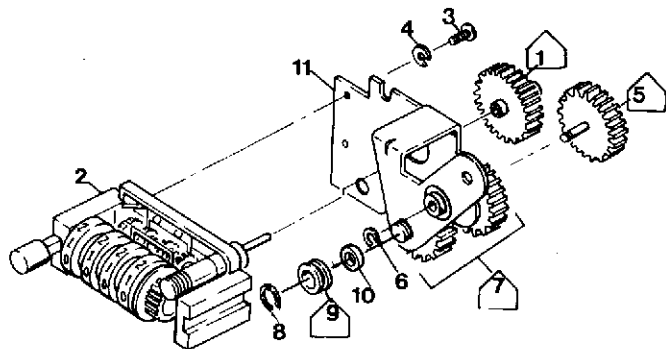

Figure 3-15. FILM COUNTER COMPLETE
**3. Film Counter Complete (Fig. 3-15)**
- a. Lubricate interfaces of idler gear assembly shaft (7) and bearing (9) with Teresstic N-75 oil.
- b. When gear (5) is rotated, entire gear train and counter must operate freely and smoothly.